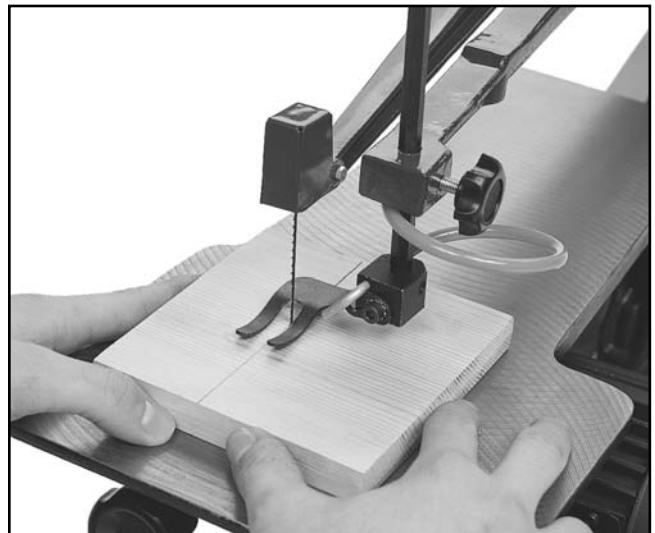

Figure 9.
3. Turn power on. Allow motor to get up to speed and push workpiece slowly and steadily into the blade, keeping your hands to either side of the cutting line. Make sure the blade is cutting to the waste side of the line. **Figure 9.**